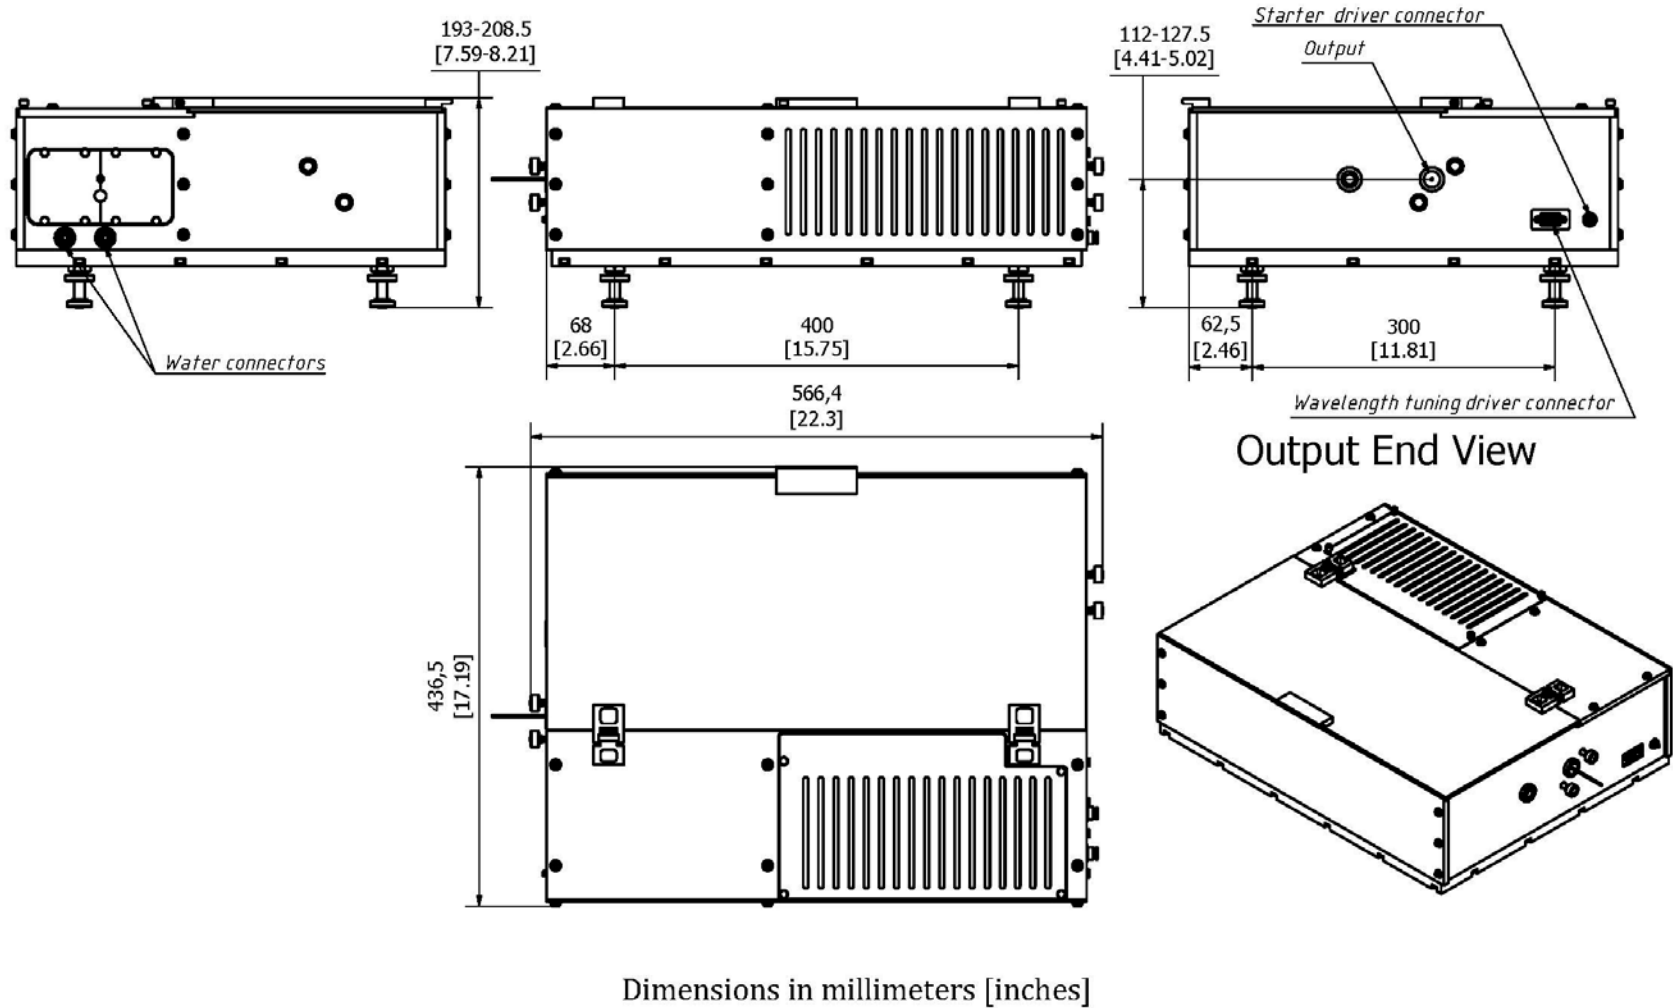

Fig. 2 Outline drawing
Connections to the laser (*Fig. 2*) include cooling water, power and control from "Electronics Module" (optionally), power and slit driver module (optionally) and power and birefringent filter and etalons driver module (optionally).
6. Hook up the water tubes to the laser head (**Fig. 2**), and switch on cooling water (moderate water flow ≥ 0.5 l/min).